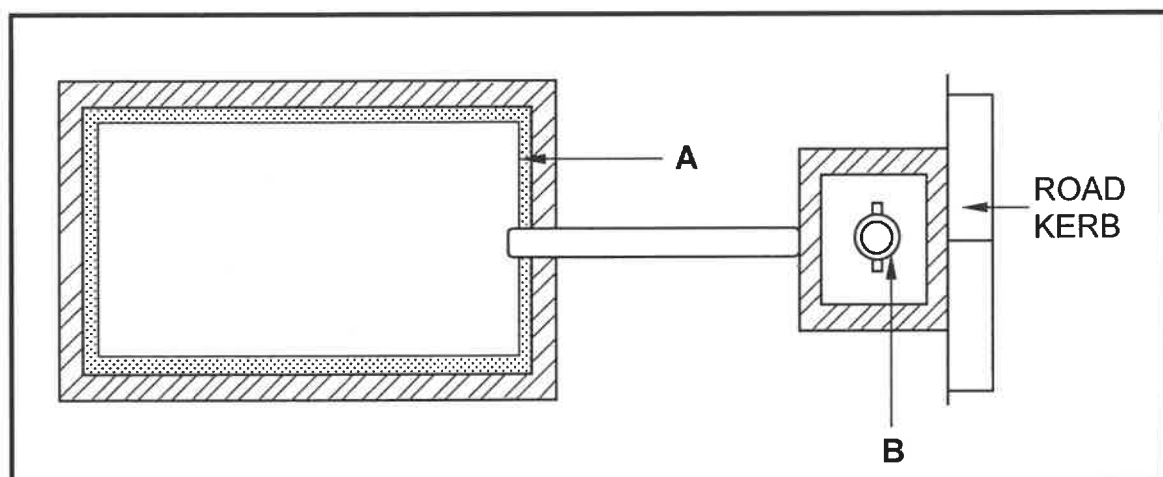

FIGURE 6.4
- 6.4 FIGURE 6.4 below shows a horizontal sectional view of a vacuum tank.